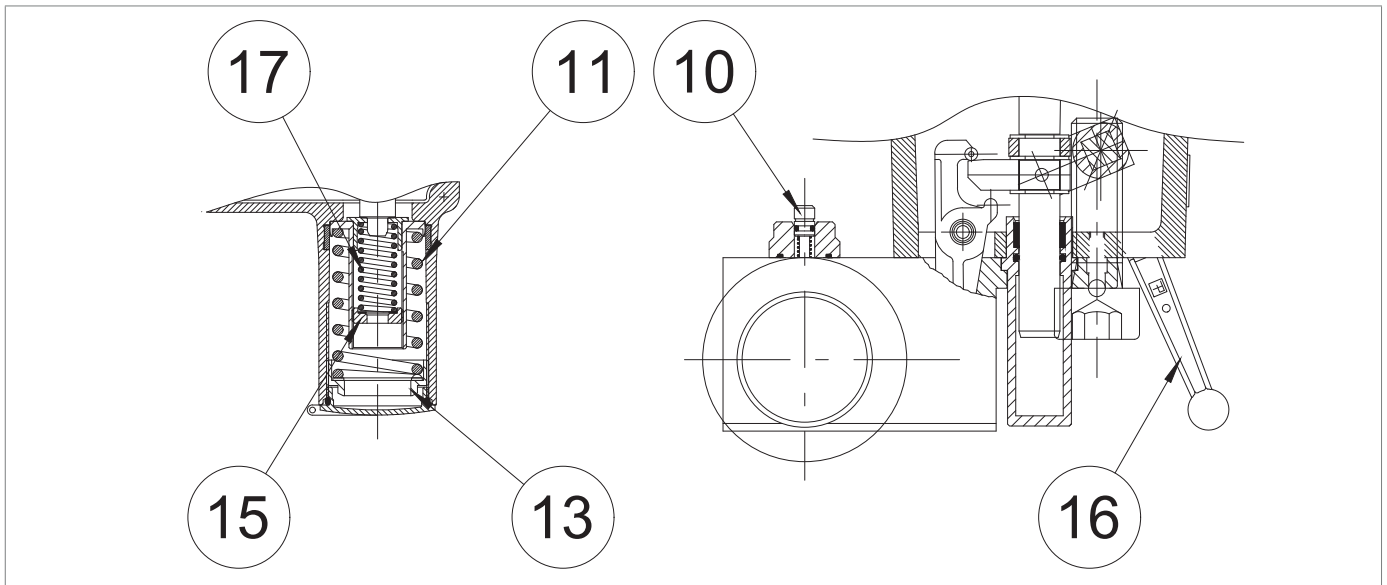

Fig. 8.38. Pressure switches models 102M/102MH - 105M/105MH
2	<p>Check that the slam-shut valve is in the shut-off position.</p> <p>! NOTICE! If the slam-shut valve is in the open position, close it using the manual button (Fig. 8.38, ref. 10).</p>